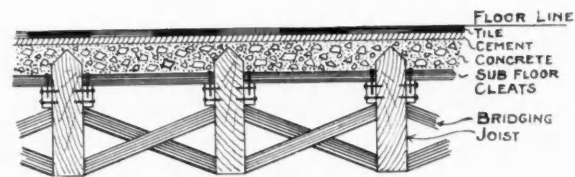

Fig. 2. Tile Floor Laid in Old Building
**FLOORS IN OLD BUILDINGS.** Cleats are nailed to joists five inches below intended finished floor line, and short pieces of boards (not over six inches wide),  $\frac{1}{8}$  inch apart, fitted in between joists upon cleats and well nailed. Joists must be thoroughly bridged. Place roof paper as above directed. Corners on the upper edge of joists should be chamfered off to sharp point (see Fig. 2), as flat surface of joists will give uneven foundation. When strength of joists will permit, cut an inch or more off top. Where joists are too weak, strengthen by thoroughly nailing cleats six inches wide full length of joists.